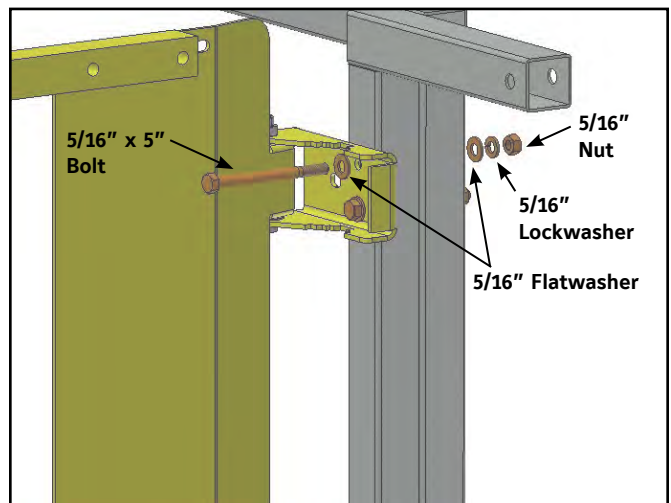

Figure 36 – Top Perimeter Guardrail Safety Gate Attachment
5. Install the safety gate(s) using the 5/16" x 5" bolts provided. See Figure 36.